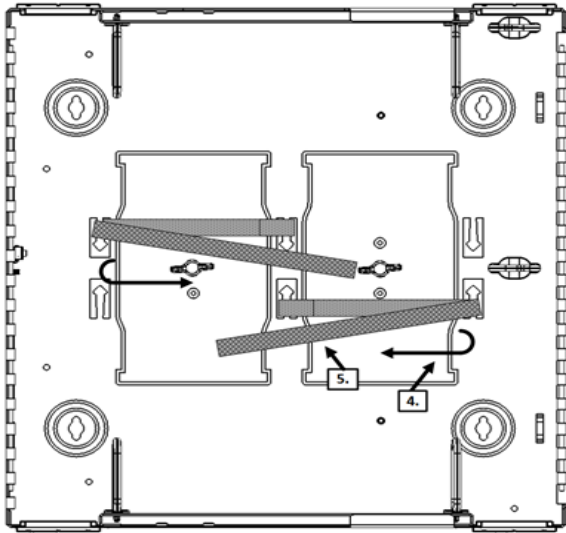

Figure 7
4. Fold the end over the splice tray(s). (Figure 7).